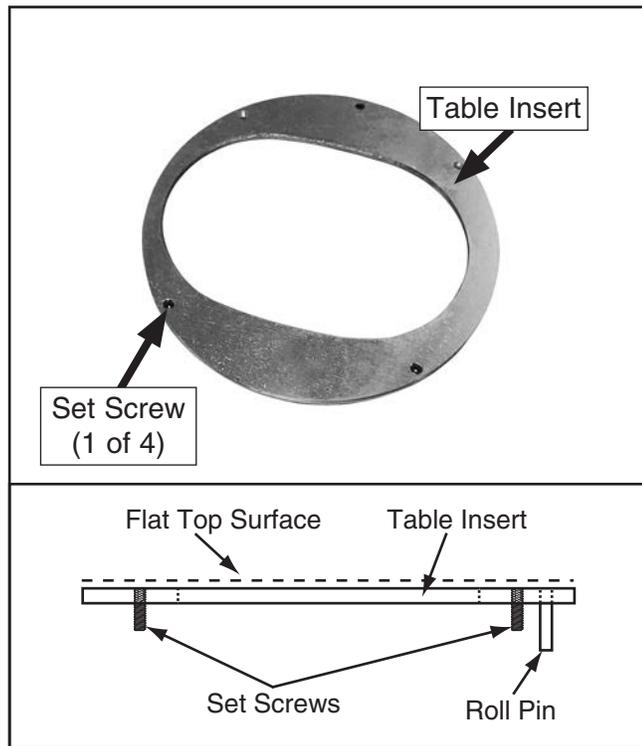

Figure 15. Inserting set screws.
13. Thread four of the 1/4"-20 x 5/8" set screws into the threaded holes on each table insert, as shown in **Figure 15**.